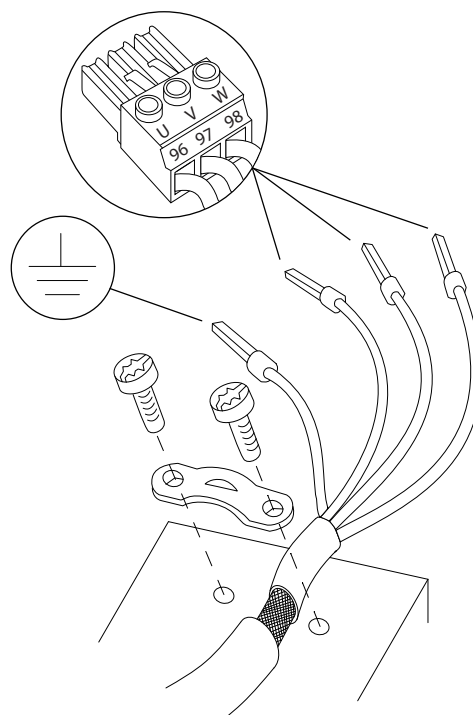

Figure 4.4 Motor Connection
3. Connect the ground wire to the nearest grounding terminal in accordance with the grounding instructions provided in *chapter 4.3 Grounding*, see *Figure 4.4*.
4. Connect the 3-phase motor wiring to terminals 96 (U), 97 (V), and 98 (W), see *Figure 4.4*.